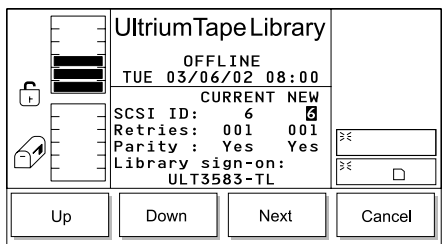

Figure 198. SCSI Dialog
4. Press the button below the **SCSI** softkey. The SCSI Dialog displays (see Figure 198).